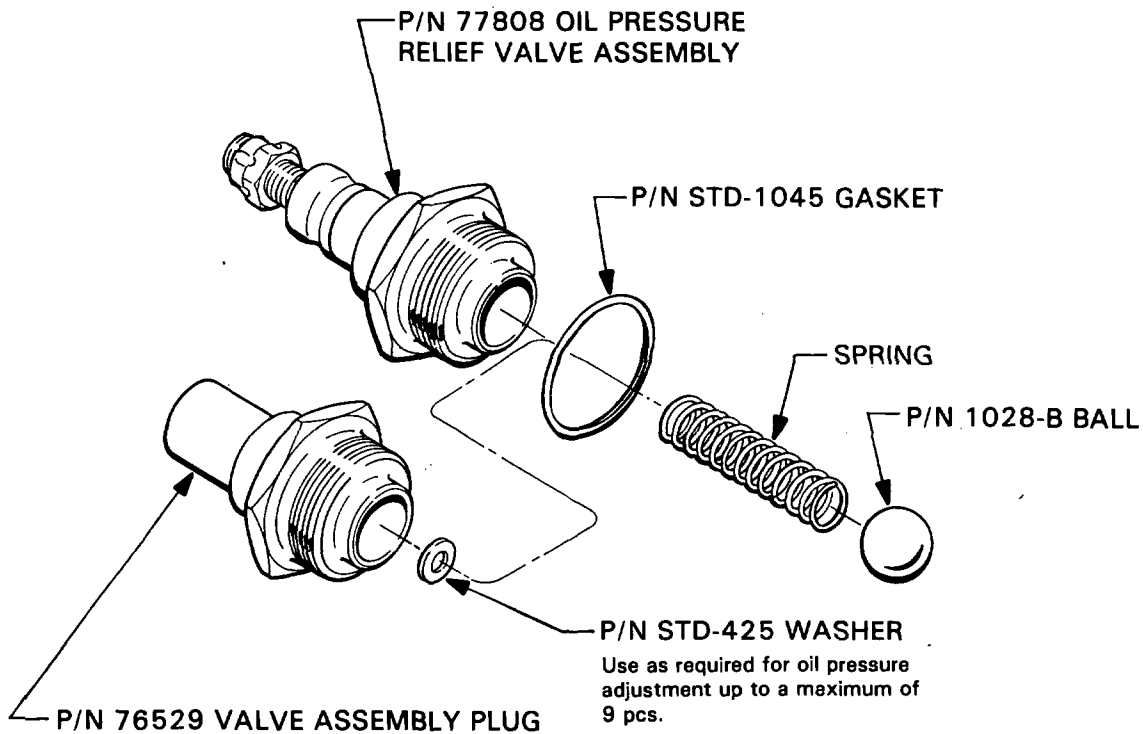

Figure 6. Oil Pressure Relief Valve Component Parts
3. Oil pressure is adjusted by turning the slotted screw or the hex nut on the end of the adjustable oil pressure relief valve P/N 77808 or by increasing or decreasing the number of P/N STD-425 washers installed between the spring and the base of the P/N 76529 oil pressure relief plug (see Figure 6). Adjust the oil pressure after the engine is thoroughly warm. Normal oil pressure can be expected to vary from 100 psi during starting and warm up to 25 psi at idle when the engine is warm. See the oil pressure specifications in the applicable Operator's Manual before making any adjustments.